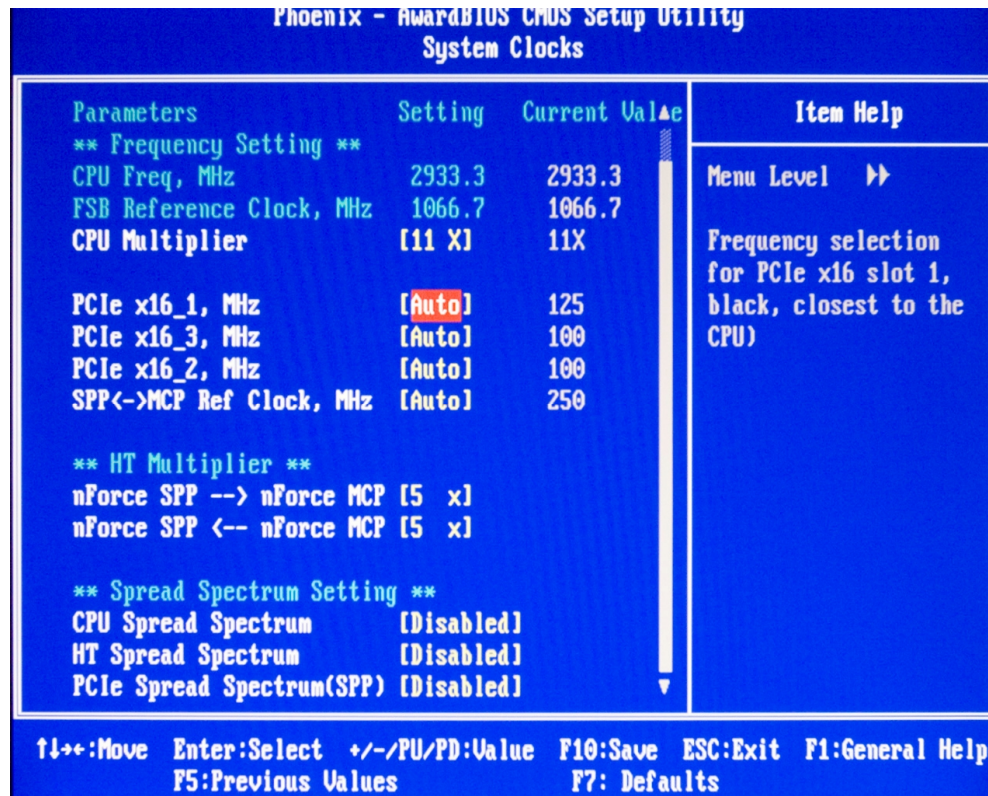

Figure 10. PCI Express Settings
4. To change any of these values, press ENTER and it brings up a menu you can choose from, as shown in Figure 10.